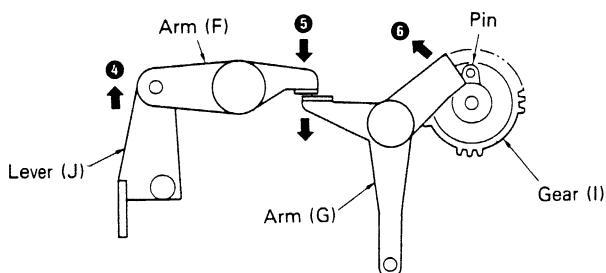

Fig. 25
8. As lever (J) moves in the direction indicated by arrow ④ in Figure 25, lever (J) moves in the direction indicated by → arrow ⑤ and pushes against arm (G). Arm (G) moves in the direction of arrow ⑥, releasing the pin on gear (I).